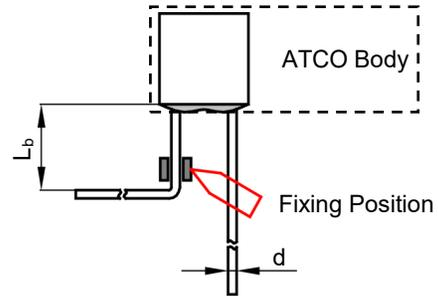

FIGURE YM-2
2. When bending leads, please use pincher or similar tools to fix the product as shown in Fig.YM-2, to avoid damaging the product.